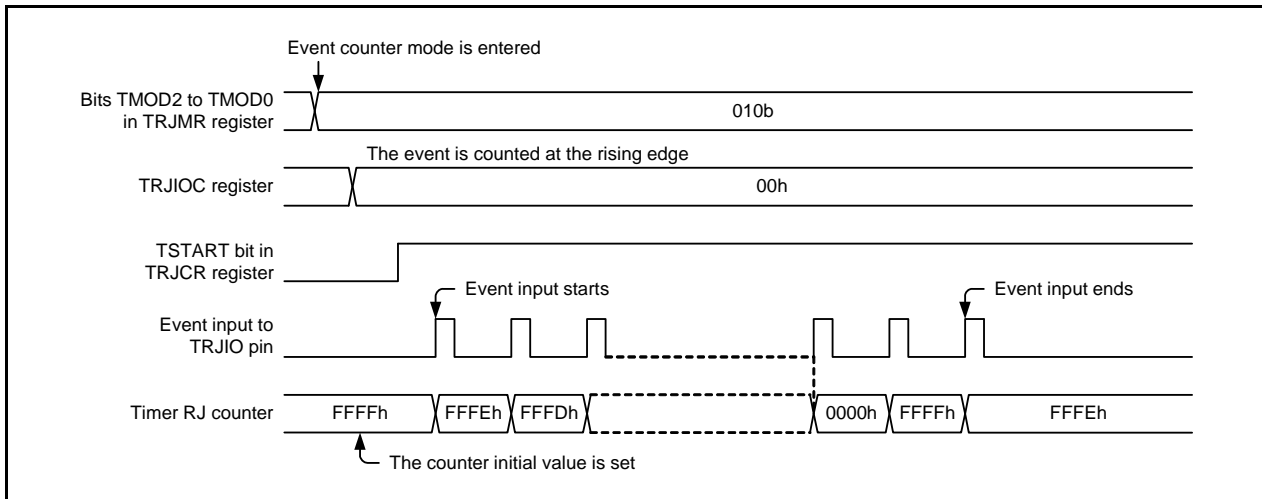

Figure 15.5 Operation Timing Example in Event Counter Mode (1)
Figure 15.5 shows an Operation Timing Example in Event Counter Mode (1).